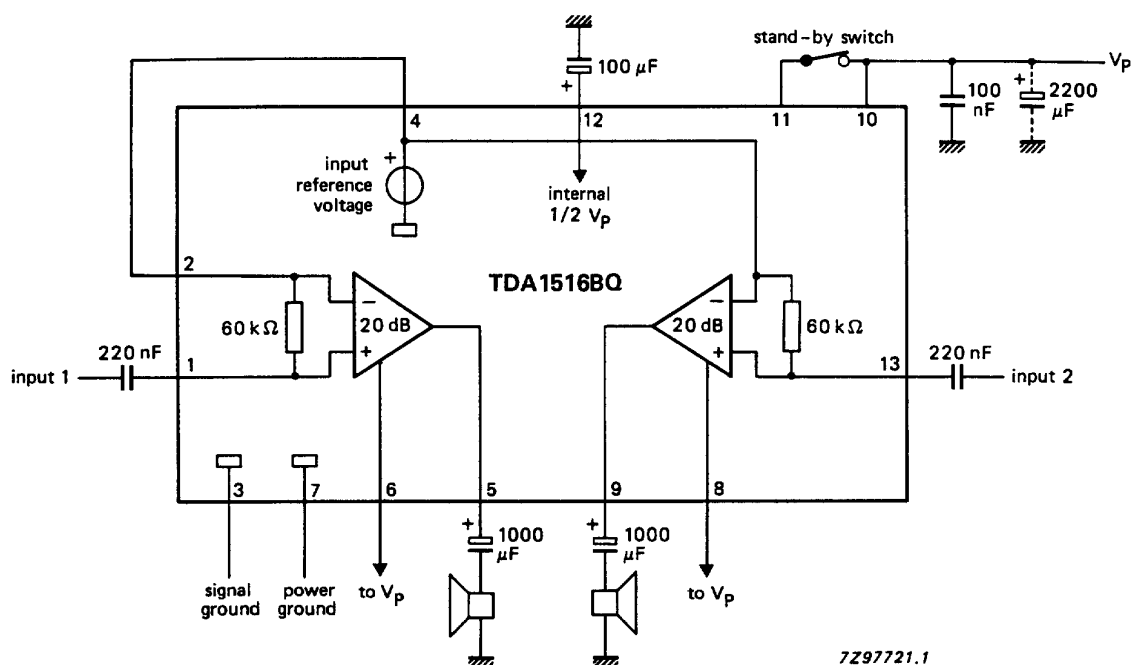

Fig.3 Stereo application circuit diagram.
1. All characteristics, for stereo application are measured using the circuit shown in Fig.3.